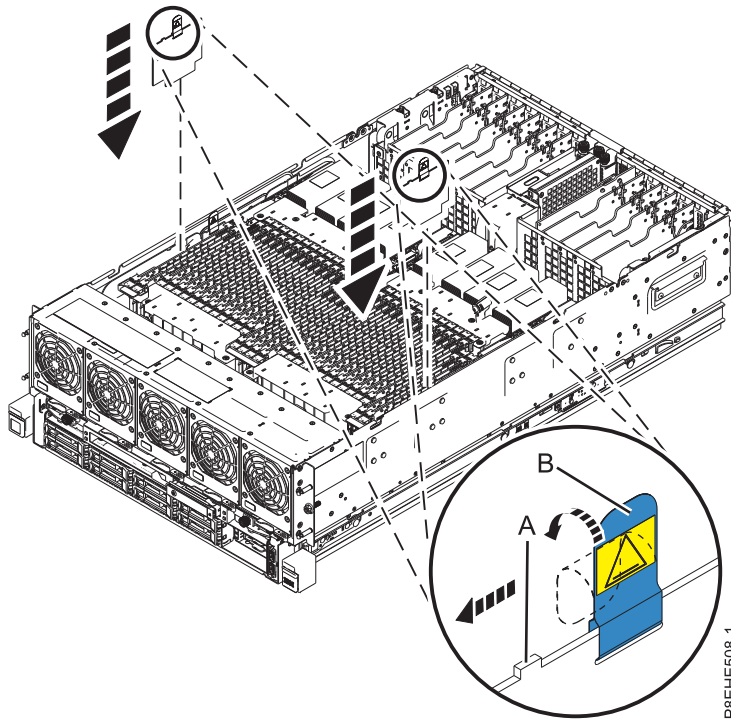

Figure 16. Installing the memory voltage regulator module
- a. Place the memory voltage regulator module into the connector of the system backplane, as shown in Figure 16.